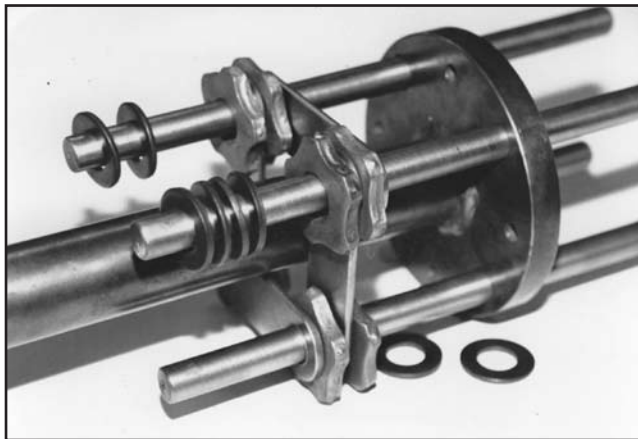

FIGURE 6
2) Arrange the flails in a sequence or pattern that minimizes "blind" or "open" spots created by the additional support plates of the two section flail drum. Always insert at least one spacer washer between two (2) consecutive flails. The exception to this rule is a configuration where its design does not require the use of spacer washers. A flail drum set up with only pentagonal flails and no spacer washers will not penetrate the work surface at satisfactory rates. Typical configurations minimize the hammering or impact action of the flails. However, this can also be useful when removing traffic lines.
3) Allow the flails to be arranged on the one section flail drum in configurations of specific widths for many job applications. An example would be the use of pentagonal flails to groove a concrete floor. The spacer washers are used to position the pentagonal flails at the desired width. FIGURE 6.